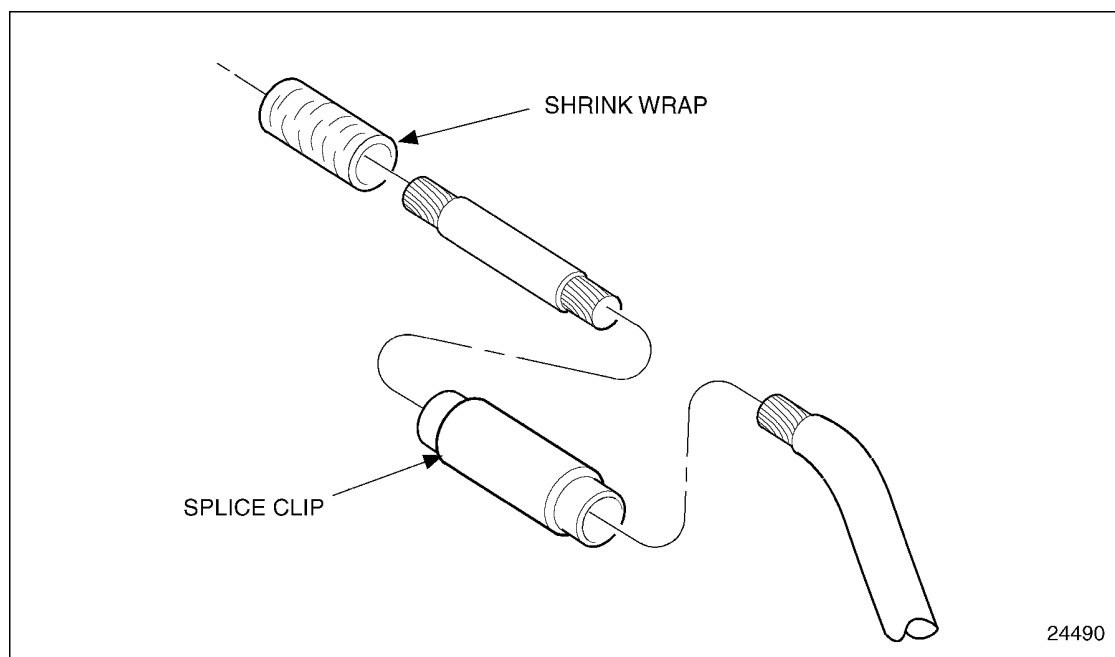

Figure 8-30 Spliced Wire
5. Insert the other wire into splice clip and crimp. See Figure 8-30.